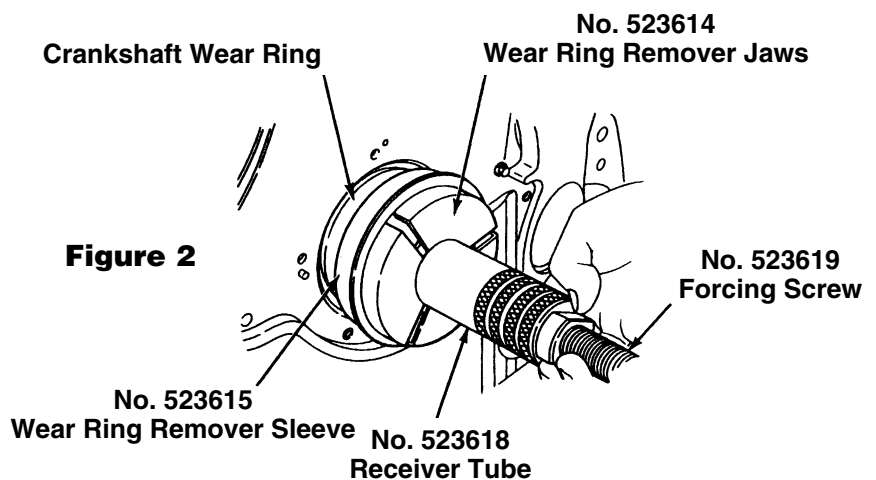

Figure 2
1. Thread No. 523619 forcing screw into the No. 523618 receiver tube. See Figure 2.